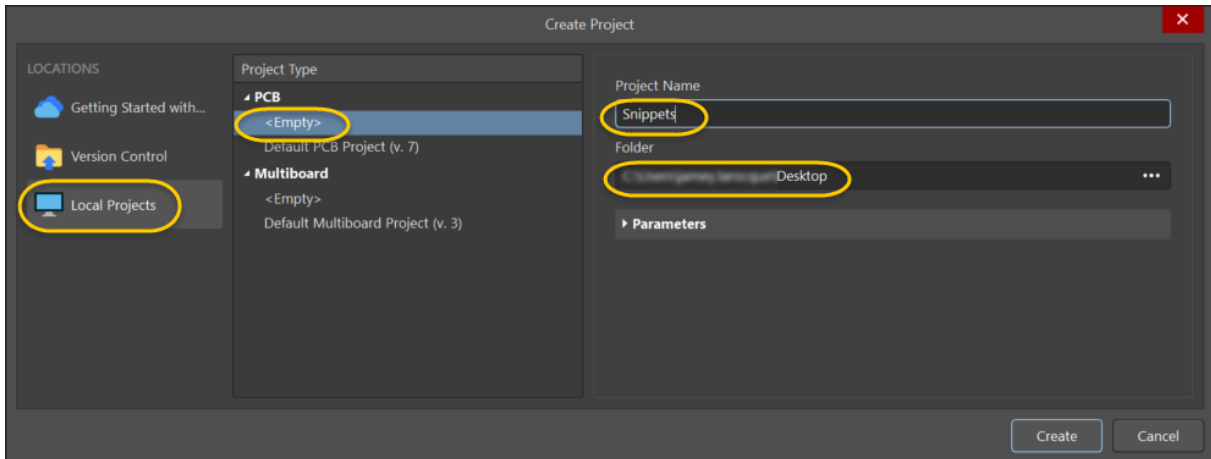

Figure 11. New Project dialog
28. Use Figure 11 as a reference and set the project values to the following: